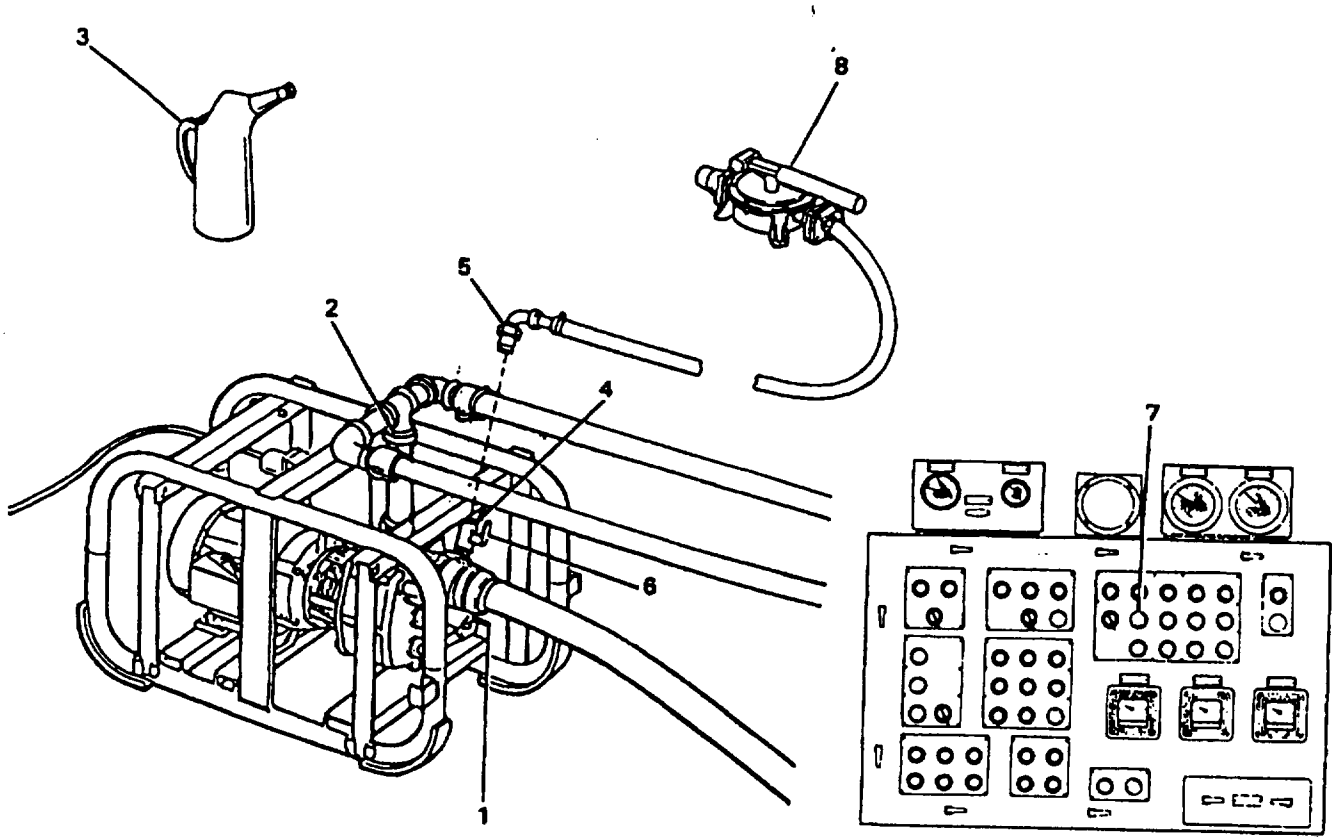

Figure 2-41. Priming the Raw Water Pump (Sheet 1 of 2)
- (1) Prime the raw water pump (Figure 2-41).